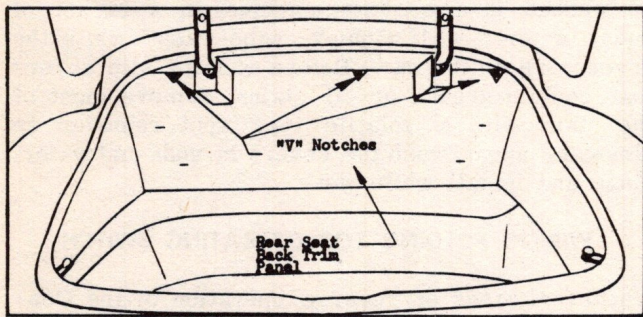

Fig. 5 Position of Notches on Trim Panel
In addition to the support hooks in use on the top of rear seat backs, screws are now being installed through the flange of the rear compartment shelf into the three metal retainers in the seat back assembly to hold the seat back assembly in place. The rear seat back trim panel is then notched as shown to expose the heads of the three screws from the rear compartment. See Fig. 5.
4. Install three #10 x 3/4" long sheet metal screws as shown in Figs. 5 and 6.